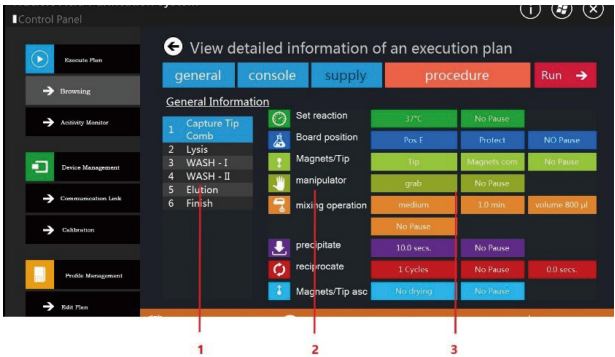

Figure 9. User Interface of Execution Plan Experiment Process Information
As shown in Figure 9, the system will present the detailed experiment procedure of the plan on the condition that the user clicks the experiment program label in the content classification label of the execution plan. ① in Figure 9 indicates each execution phase of the execution plan, which is displayed in the form of a vertical list according to the order of execution. Each row in the list represents an execution stage. When the user clicks, the system shows the execution actions and its parameters in this stage. ② in Figure 9 represents the execution actions involved in the stage of grasping the tip comb, and ③ in Figure 9 represents the action parameters involved in the execution of the manipulator actions in the stage of grasping the tip comb.